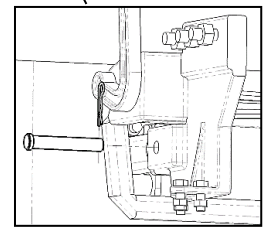

Figure 1b: Rear view of tow receiver
1. Insert Tow Receiver Mounts into tow receivers on truck. Secure using Clevis Pins and Hairpins (Figure 1b)